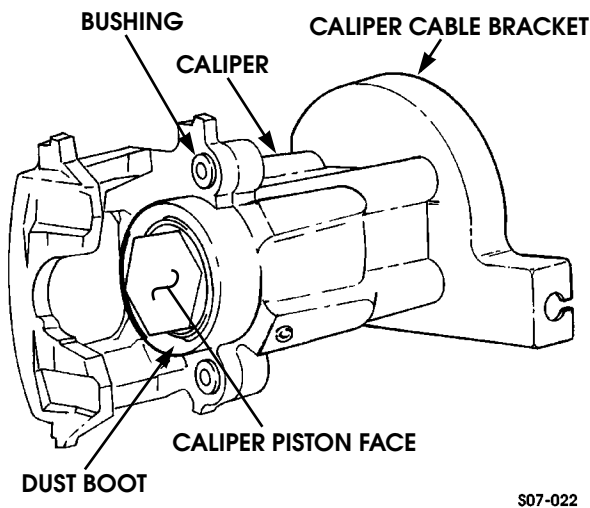

Figure 7-28: Rear Dual Brake Caliper
2. Inspect caliper and caliper piston face for pitting or damage (Figure 7-28).
3. Using special tool J42553, rotate caliper piston in a clockwise direction, and at the same time apply force on outer piston face until caliper piston is seated in piston bore (Figure 7-28).